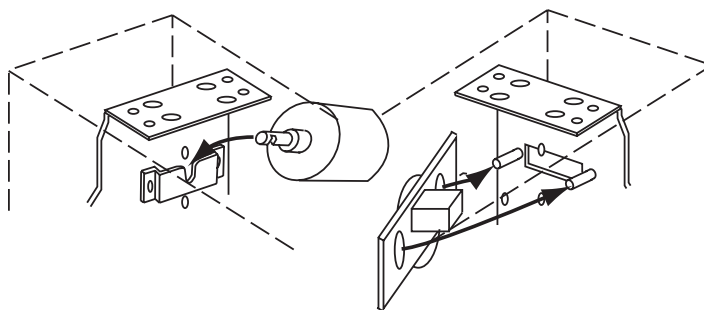

Figure 7
- ① Place operator end of upper roller onto its bracket, then slide notched pin on other end into slot on bracket. Secure operator end with retainer pins, and secure pin end with retainer clip (see Fig. 7).